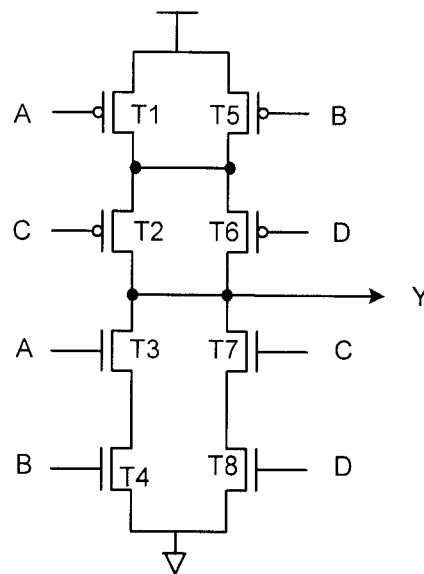

Figure 6.1
6. a) Deduce the Boolean equation for the circuit shown in *Figure 6.1*.
- d) By adding a suitable flip-flop circuit and by implementing suitable drivers for A, B C and D inputs to the circuit shown in *Figure 6.1*, design a transistor-level circuit of a single-bit scan-path register.